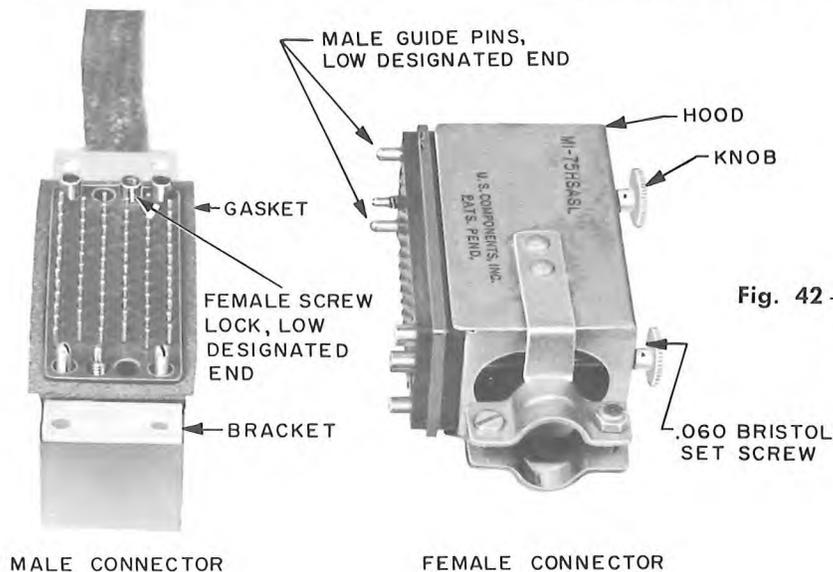

Fig. 42 — Component Parts of 75-type Miniature Connectors
15.02 Miniature connectors are composed of the parts shown in Fig. 42.
- The male screw locks and guide pins must be placed in the low designated end of the female connector; on the male connector, the female screw locks and guide pins go in the low designated end (see Fig. 42).